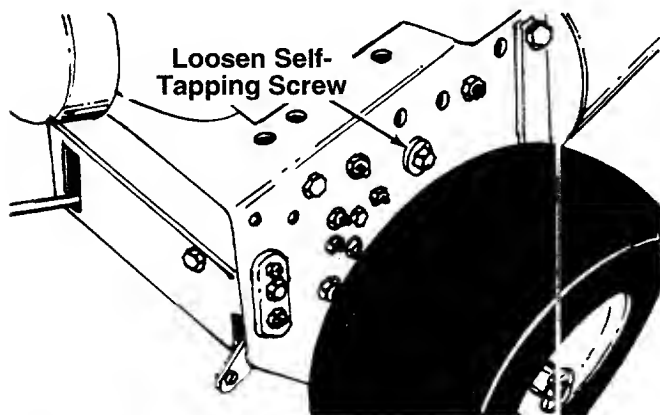

FIGURE 5.
4. To attach the handle assembly to the unit, loosen one self-tapping screw and belleville washer on each side of the unit. See figure 5. A 9/16" wrench or adjustable wrench is required.